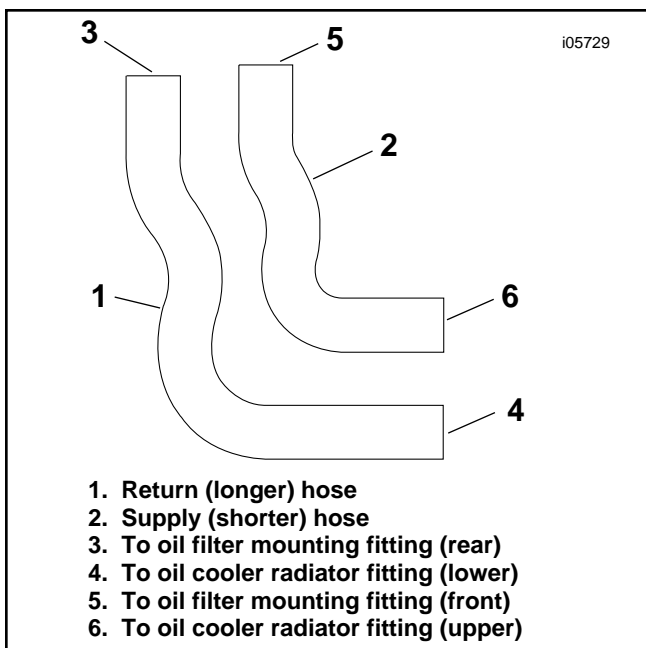

Figure 6. Proper Oil Hose Positioning
21. See Figure 6 and the Service Parts list. Obtain the longer return hose (Item 7) and a hose clamp (Item 2) from the kit. Install the return hose to the fitting installed in Step 20, and tighten the clamp to 6-7 **in-lbs** (0.7-0.8 Nm).